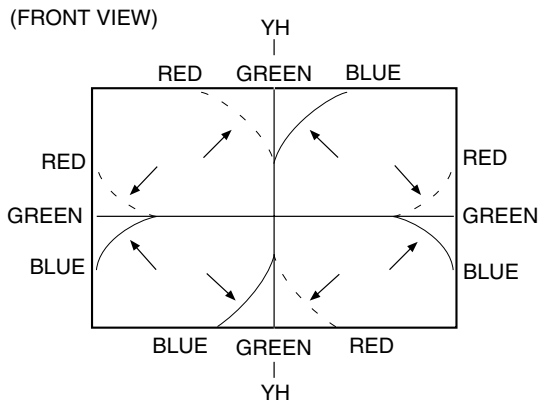

Fig. 9
2. Using the VR on the deflection yoke, match the Y_H (CROSS). (Fig. 9 and 11)